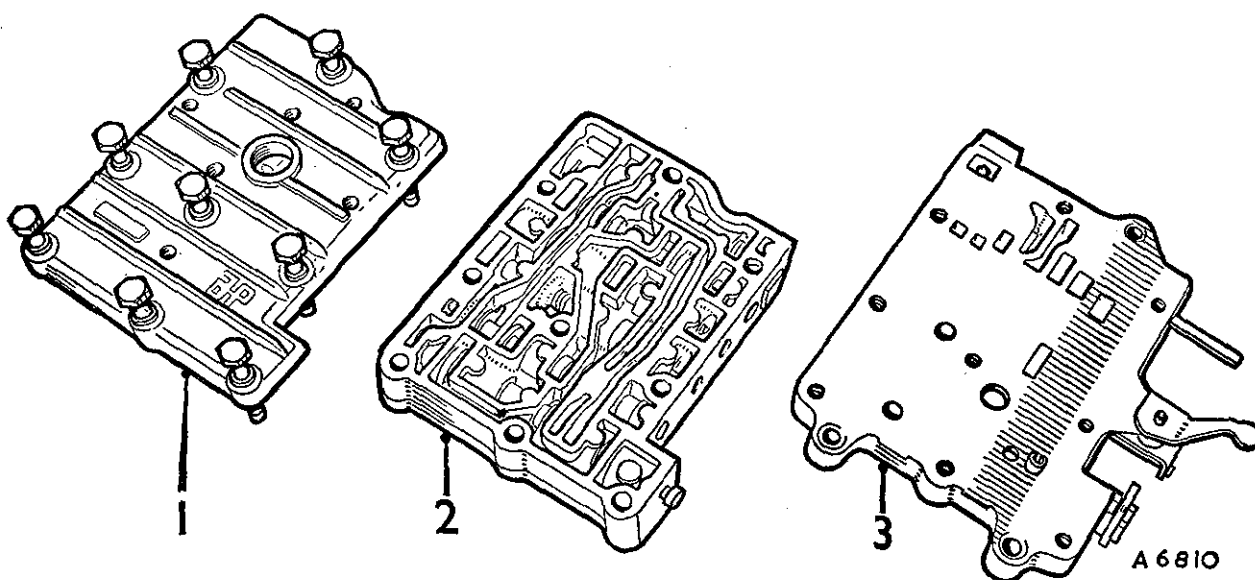

Fig. Fa.25
- (7) Remove the bell-crank lever clevis pin. Unscrew and pull out the selector rod sufficiently to remove the valve block.
- (8) Loosen the servo unit securing bolts.
- (9) Remove the valve block assembly as individual components, i.e. the lid, valve chest, and finally (if necessary) the pipe chest (Fig. Fa.25).
- (14) Remove the lid and valve chest from the pipe chest (if removed as a unit), see Fig. Fa.25.
- (15) Remove the selector and governor valves.
- (16) Remove the 'C' clips and the plugs. Remove the regulator valve, spring, and reverse booster piston assembly.
- (17) Remove the 'C' clip and the plug. Remove the tow-start valve, spring, and spring retainer.
- (18) Remove the 'C' clips and the plugs. Remove the second and fourth gear valves, spring, and booster piston.
- (19) Remove the 'C' clip and tap out the plug. Remove the third gear valve booster piston, spring, spring retainer, and the plastic plug.